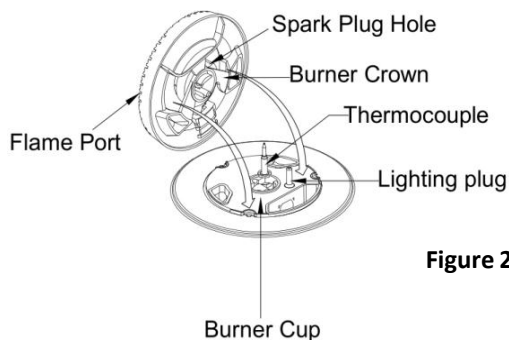

Figure 2
Removing the burners (refer figure 2)
- To do this, ensure that the 2 ribs on either side of the spark plug hole are positioned into the 2 slots on the burner cup. (See figure 2).
- Open the lever A completely on the left and right hinges (fig.2).